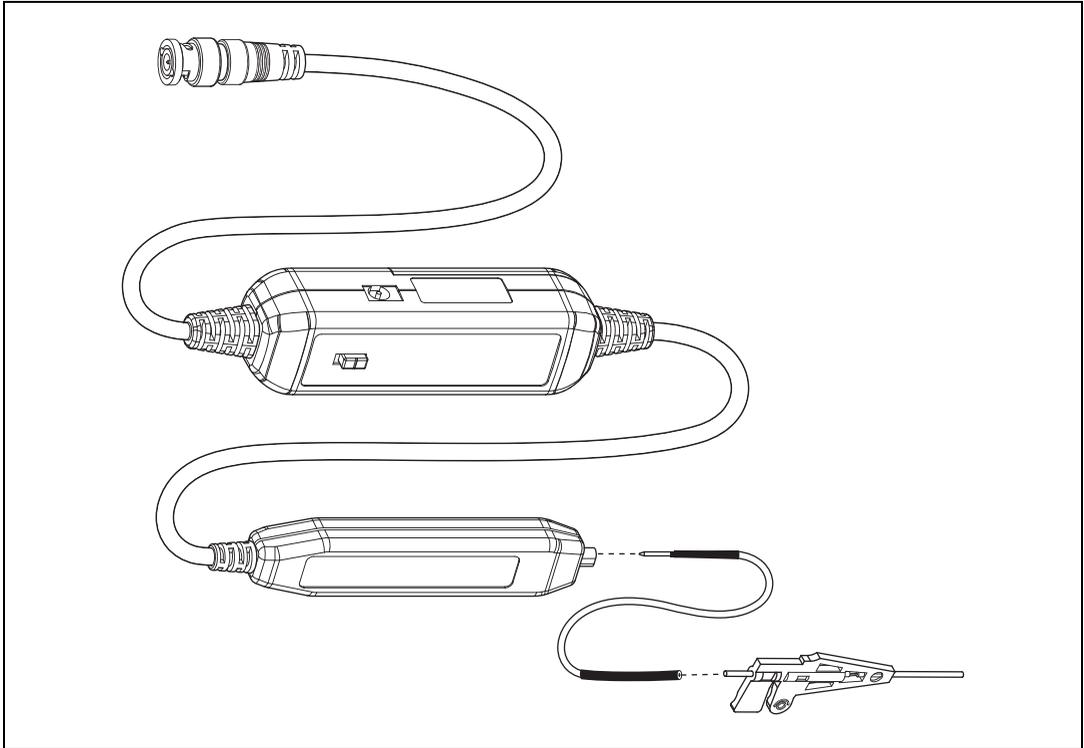

Figure 3. Connecting Micro Test Clip to the NI 5191
- Insert the micro test clip directly into the extension leads using the pin on the back end of the clip, as shown in Figure 3.